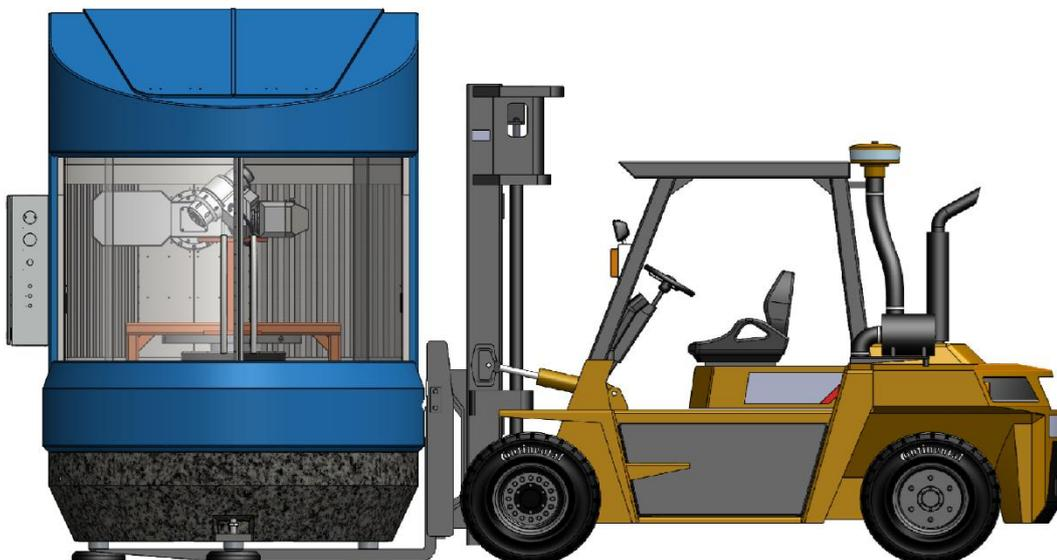

Figure 6 - Forklift zones
ATTENTION: Please note the centre of gravity. See (Figure 6).
ATTENTION: The machine must be lifted in the forklift zones marked in (Figure 6). Risk of Tipping Over!
- Move the forks of the lift truck or forklift as far as possible under the machine. See (Figure 6).